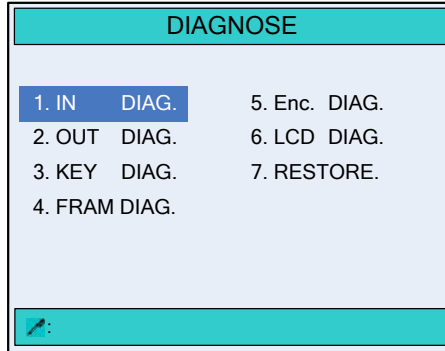

Figure 4-1 The **DIAGNOSE** page
Step 3 Move the cursor to parameter **mm/inch** or **中文/English**, enter the password **5656**, and press  to enter the **PARAMETER SET** page, as shown in Figure 4-1.